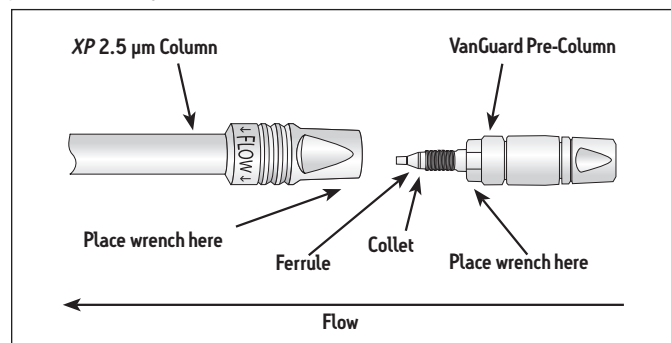

Figure 4: Installing a VanGuard Pre-Column.
5. Tighten with two 5/16" wrenches placed onto the **XP** 2.5 µm Column flats and VanGuard Pre-Column hex nut (male end) as shown in Figure 4.